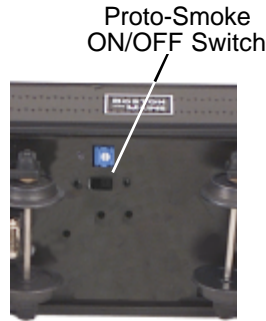

Figure 6. Smoke Switch
2. If you choose not to prime the unit with fluid, turn the smoke unit switch located under the tender to the OFF position (see Fig. 6, pg. 13). **Running the engine without a primed smoke unit may cause damage.** See the “ProtoSmoke Unit Operation” section of this book for more information on smoke unit maintenance.
If you choose not to add the fluid (or have already added the fluid but choose to run smoke-free), turn off the smoke unit switch located under the tender body (see Fig. 6).